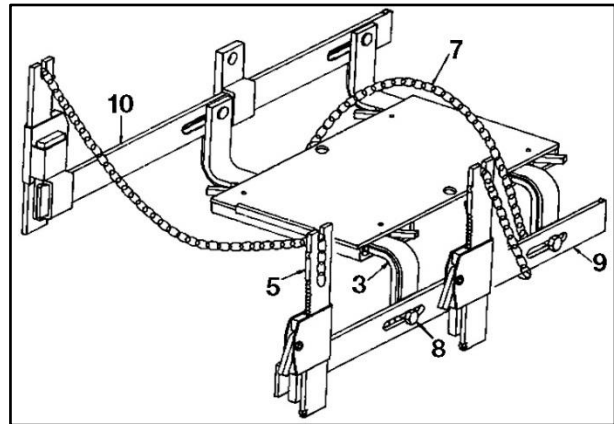

Fig. 23: Inverted bracket use
The primary purpose of the coil chain (7) is to form a sling between the slots in the upper part of adjustable vertical supports (5) as is illustrated in Fig. 12. The slings can be used to support an entire component cradle fashion; however, most frequently they will be used as auxiliary supports to provide front to rear, or side to side stability. By assembling the chain slings as shown in Fig. 23 they will support some inter axle differential carriers.